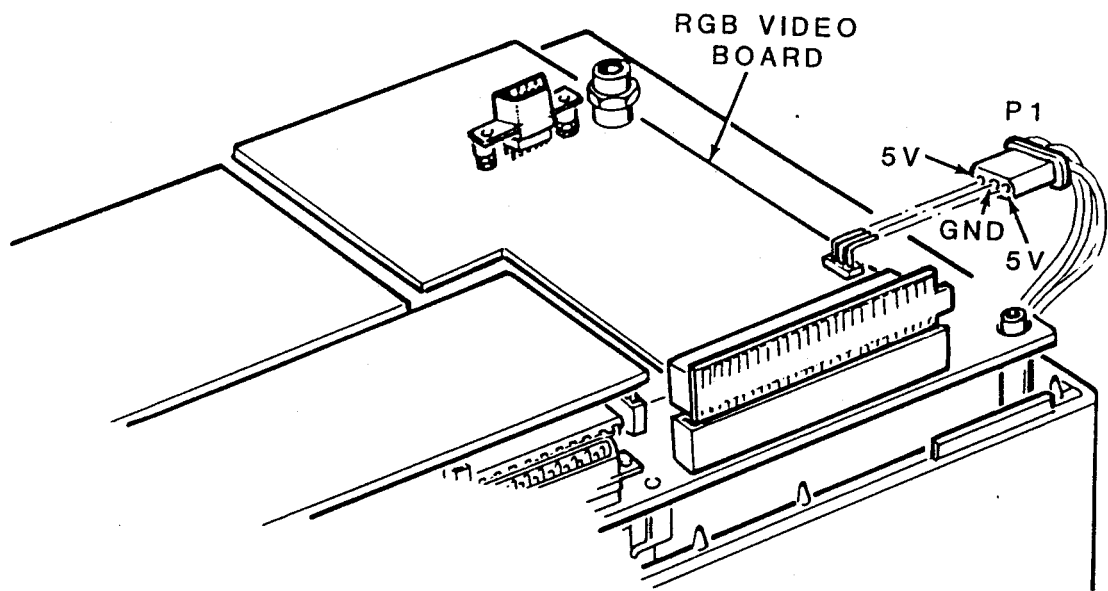

Figure 6-4: Video Board
- 7c Refer to Figure 6-4 for the test arrangement. While using a DVM or VOM to monitor the voltage across the two terminals of the battery, place a 10Ω , 5 watt resistor across the terminals for approximately 10 seconds. Did the voltage drop below 12 volts? 7d 7e